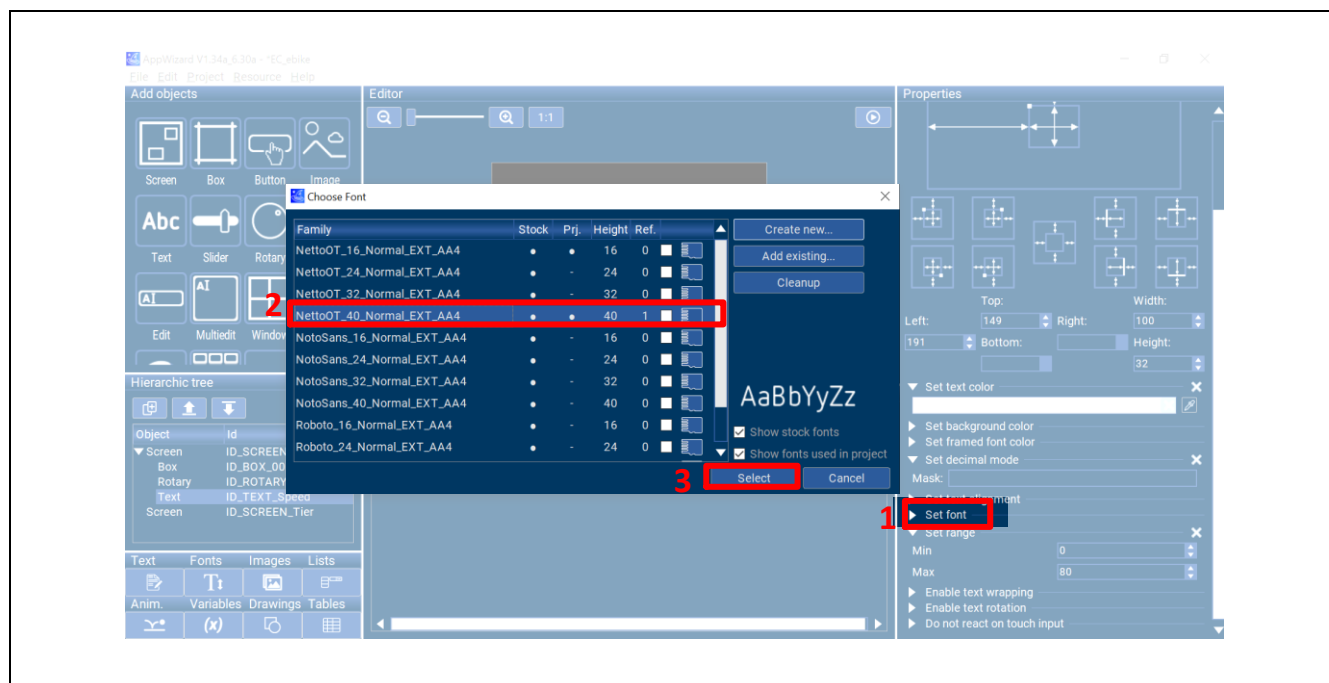

Figure 1-18 Text Object – Properties - Font
- 2) Set the font for the Text object following the steps shown in Figure 1-18.